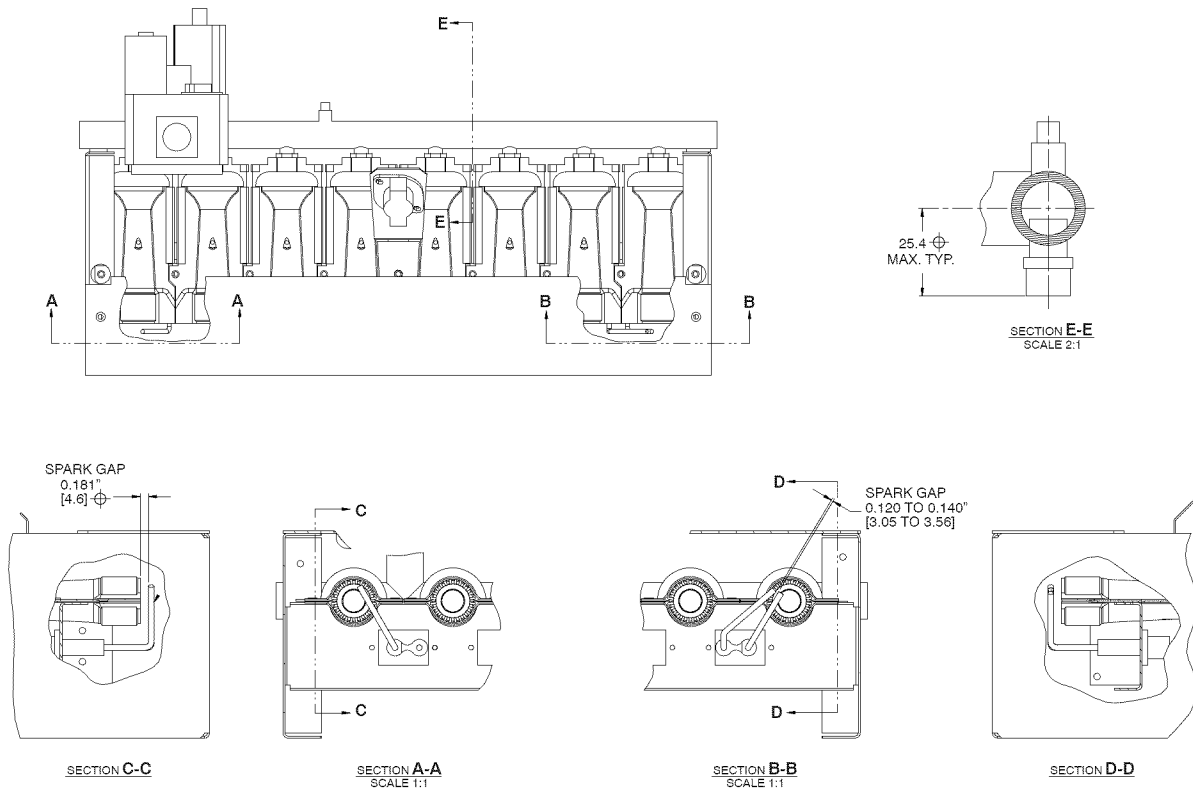

Fig. 38 - Spark Gap Adjustment
4. Adjust spark gap. (See Fig. 38.)